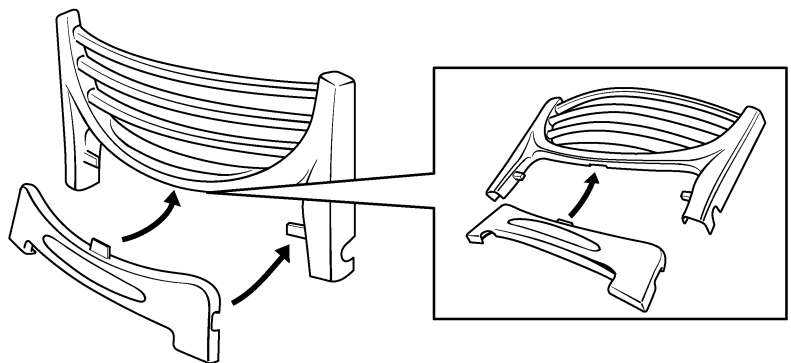

Figure 25. Lower Firefront casting location
3. Fit the lower firefront casting below the front casting locating it as shown in figure 25.